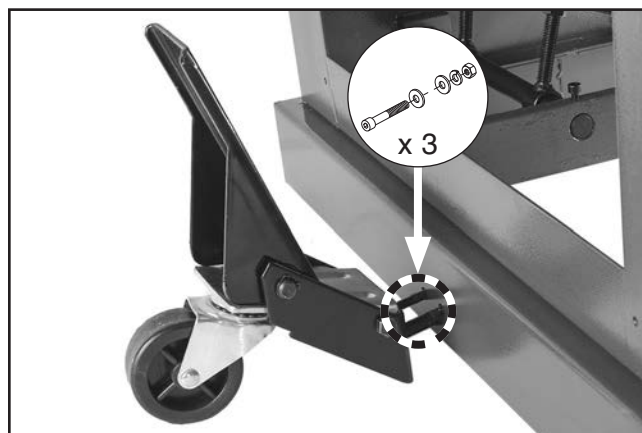

Figure 21. Attaching foot-pedal caster assembly to bottom of machine.
10. Attach foot-pedal caster assembly to bottom of machine using (3) M8-1.25 x 50 cap screws, (3) 8mm lock washers, (6) 8mm flat washers, and (3) M8-1.25 hex nuts (see **Figure 21**).